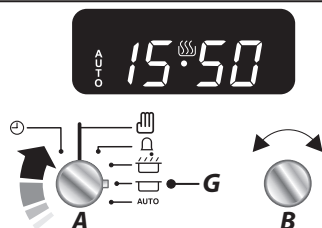

Fig. 3.11
3. Turn the **Adjusting (B)** knob to set the time of day you want the oven to stop cooking (Fig. 3.11).